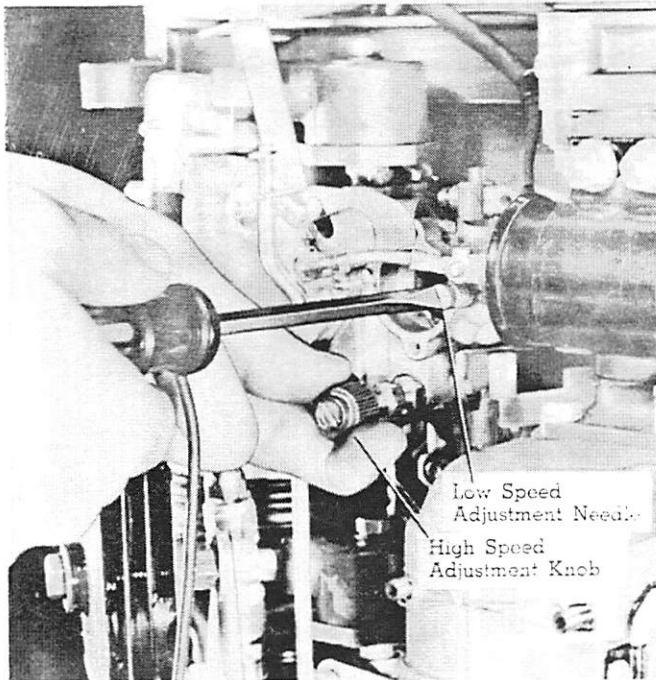

Figure 6. Carburetor Adjustments
A. High Speed Adjustment (Figure 6)
B. Idle Adjustment (Figure 6)